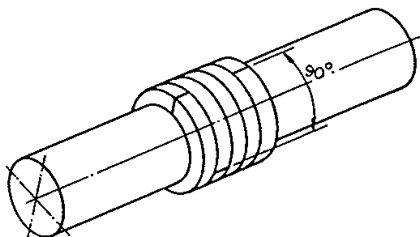

Fig. 17 - Rings position with ends positioned 90° from each other
- Proceed to the assembly in the inverse sequence of the disassembly, introducing each part into the stuffing box chamber with the help of the gland cover. The packing rings should be mounted with their ends positioned 90° from each other. (See fig. 17).